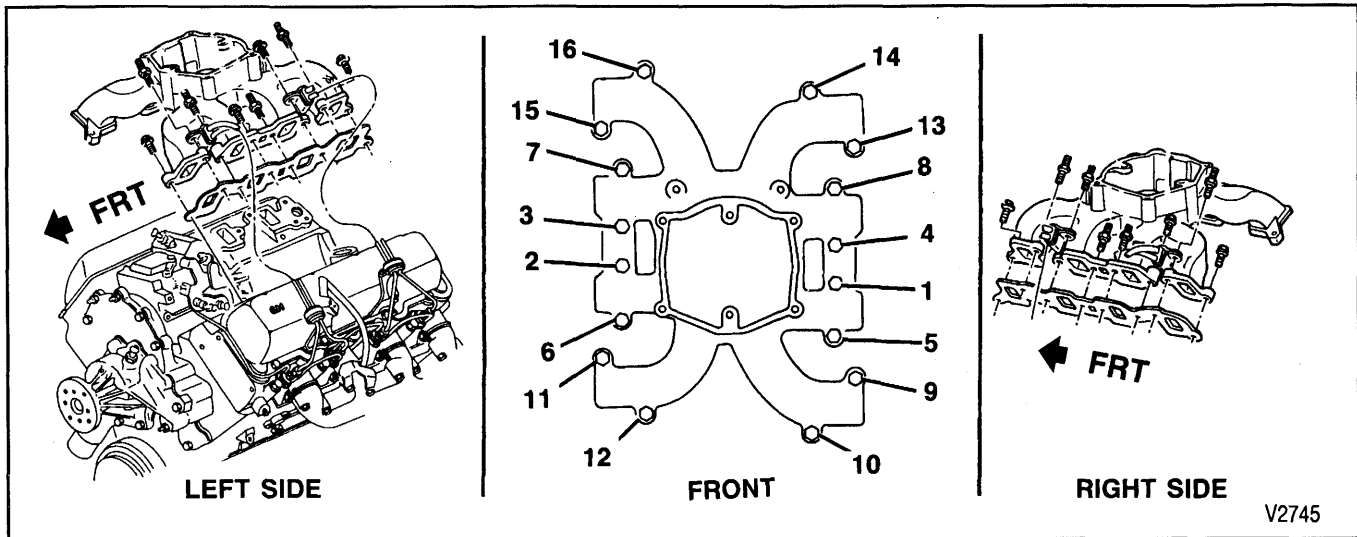

Figure 6—Intake Manifold
Remove or Disconnect (Figure 6)
Install or Connect (Figure 6)
- Intake manifold bolts to 42 N.m (32 lbs. ft.). Use the tightening sequence shown in figure 6.